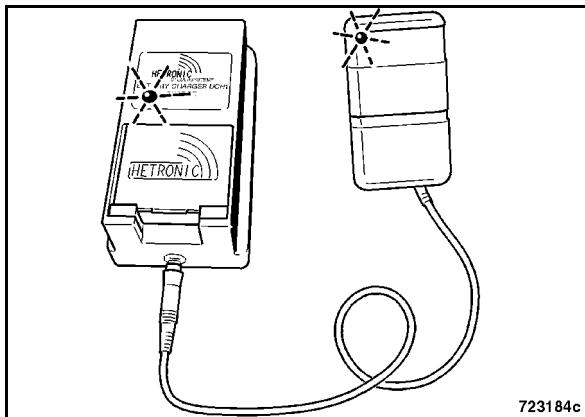

Fig. 76
- Connect the battery charger to a power source (Fig. 76).